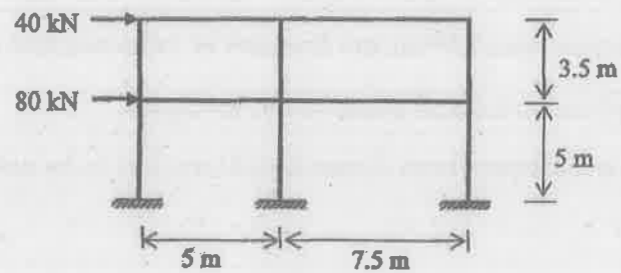

Fig. 3
13. Analyse the building frame shown in Fig.3 using cantilever method and draw the bending moment diagrams. All the columns have the same area of cross section.